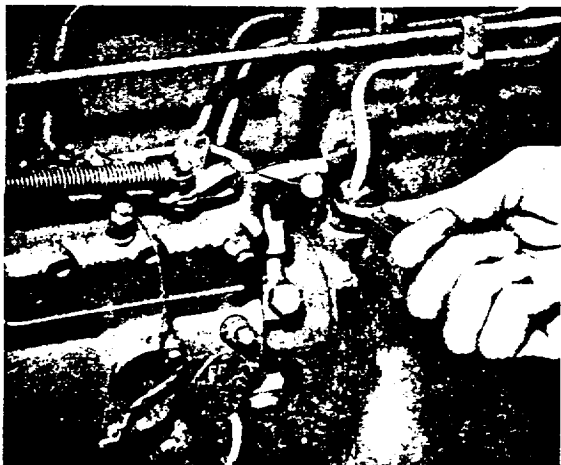

Fig. N.23.
5. Slacken the pipe union nut (see Fig. N.23) at the pump inlet, operate the priming device and